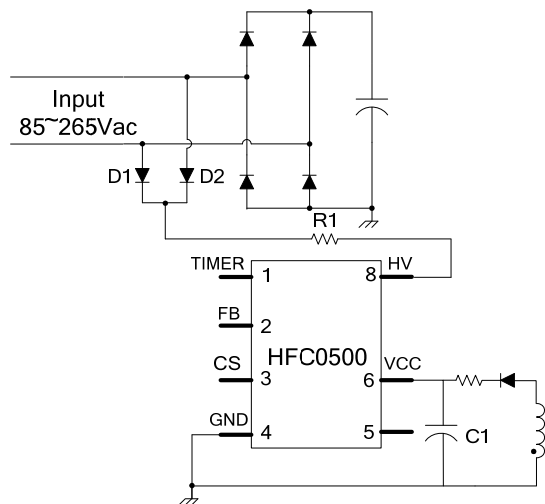

Figure 12: Start-Up Circuit
Figure 12 shows the start-up circuit. The values of R1 and C1 determine the system start-up delay time: a larger R1 or C1 increases the start-up delay. The V_{CC} duration (from V_{CC,OFF} to V_{CC,SS}) for brown-out detection should exceed half of the input period, equation (4) provides an estimated value for the V_{CC} capacitor, where I_{CC(noswitch)} is the internal consumption (close to I_{CC(latch)}), and T_{input} is period of the AC input. For most applications, choose a V_{CC} capacitor value that exceeds 10μF.